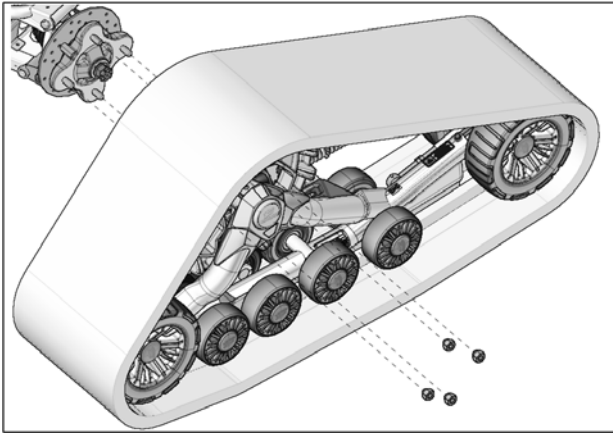

Fig. 10
9. Secure undercarriage to rear hub using the vehicle's wheel nuts. See Fig. 10
7. Using the vehicle's wheel nuts, secure undercarriages to front wheel hubs. The procedure and precautions are the same as for rear units. Refer to Fig. 10